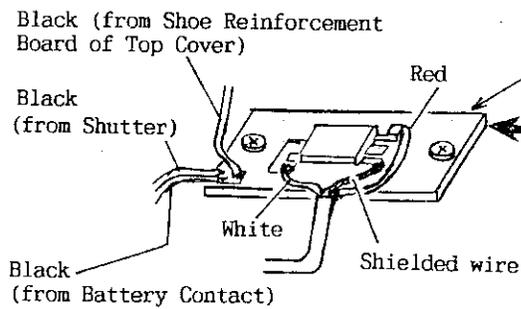

Fig. 14
- 8) Unsolder the black lead wire (coming from the shoe Reinforcement Board on the Top Cover) on the SPD Board and remove the Top Cover Ass'y. (See Fig.14)